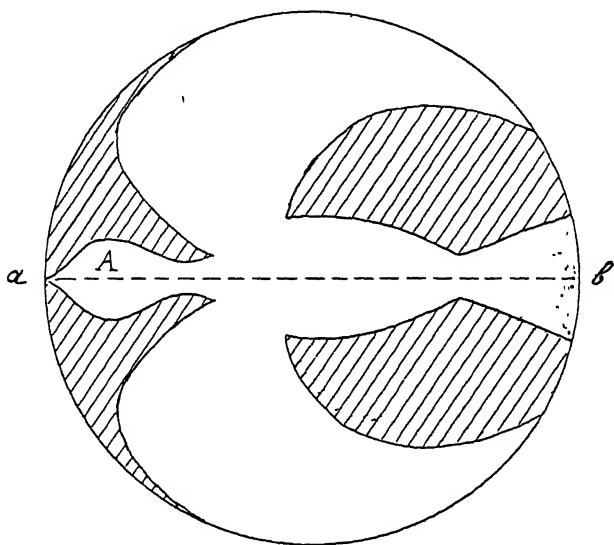

FIG. 476
In making one's first glider one cannot do better than copy a bird. On a piece of paper draw a circle, fold it in half, draw a bird on one half, as in Fig. 476, cut it out, when the paper is opened it will appear as in the figure. If this bird is thrown head first toward the ground, it will probably fall. If two little bits of cardboard are gummed on each side of his head, he will make a better flight and land on the ground after making a gentle curve. A still better bird may be cut from cardboard, a half cut is then made along *a b* to bend it, and the head is weighted with sealing-wax. How well this bird flies depends on the weight, and to some extent on the shape of the bird. Birds of various shapes and with different amounts of sealing-wax should be tried, until one is made that glides to the ground in a long, graceful curve.
(1) Draw the bird in a circle as already explained, this ensures that the wings will be exactly balanced.
(2) If the head in Fig. 476 is not long enough for a graceful